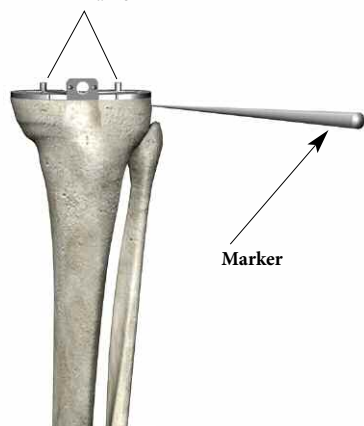

Figure 74
- Once satisfactory alignment and tibial component orientation is achieved, mark the anterior tibial cortex in line with the reference marks on the anterior border of the trial baseplate (**Figure 74**).